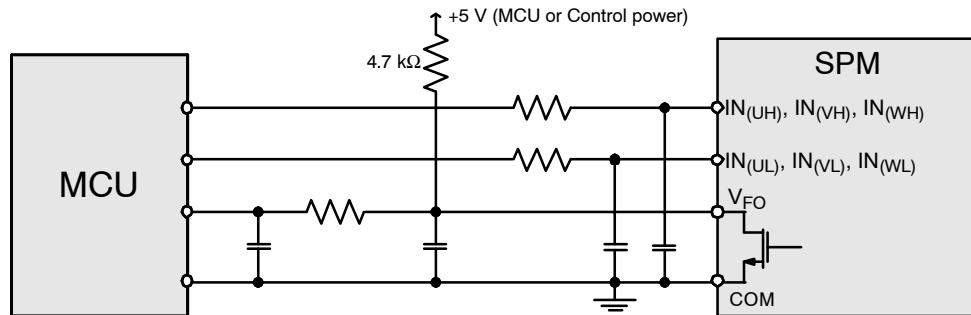

Figure 13. Recommended CPU I/O Interface Circuit
15. V_{FO} output is open–drain type. This signal line should be pulled up to the positive side of the MCU or control power supply with a resistor that makes I_{FO} up to 2 mA. Please refer to Figure 13.